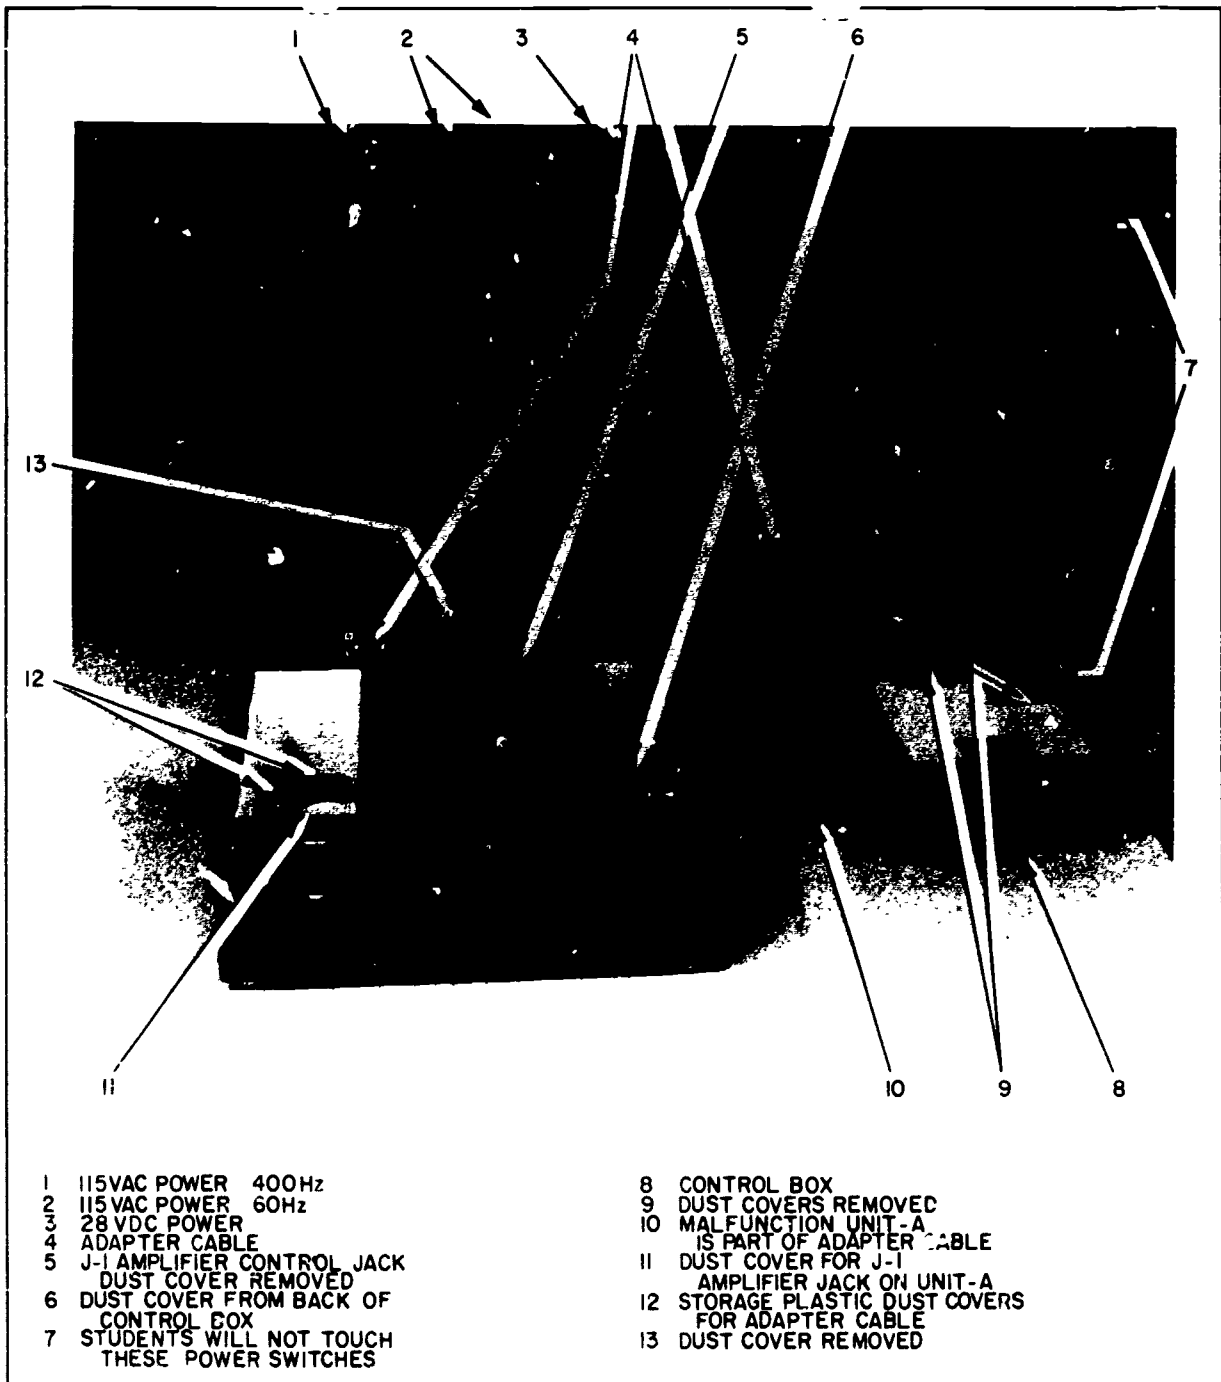

Figure 3. UNIT-A Fighter Cabin Air Conditioning Test Set.
Place the abnormal/normal indication switch as assigned, to the abnormal position and insure others remain in the normal position (figure 3, malfunction UNIT-A).
4. Insure the adapter cable with Malfunction UNIT-A box is stored as shown in figures 3, 4 and 7 with the plastic dust covers on its plugs (2 ea).